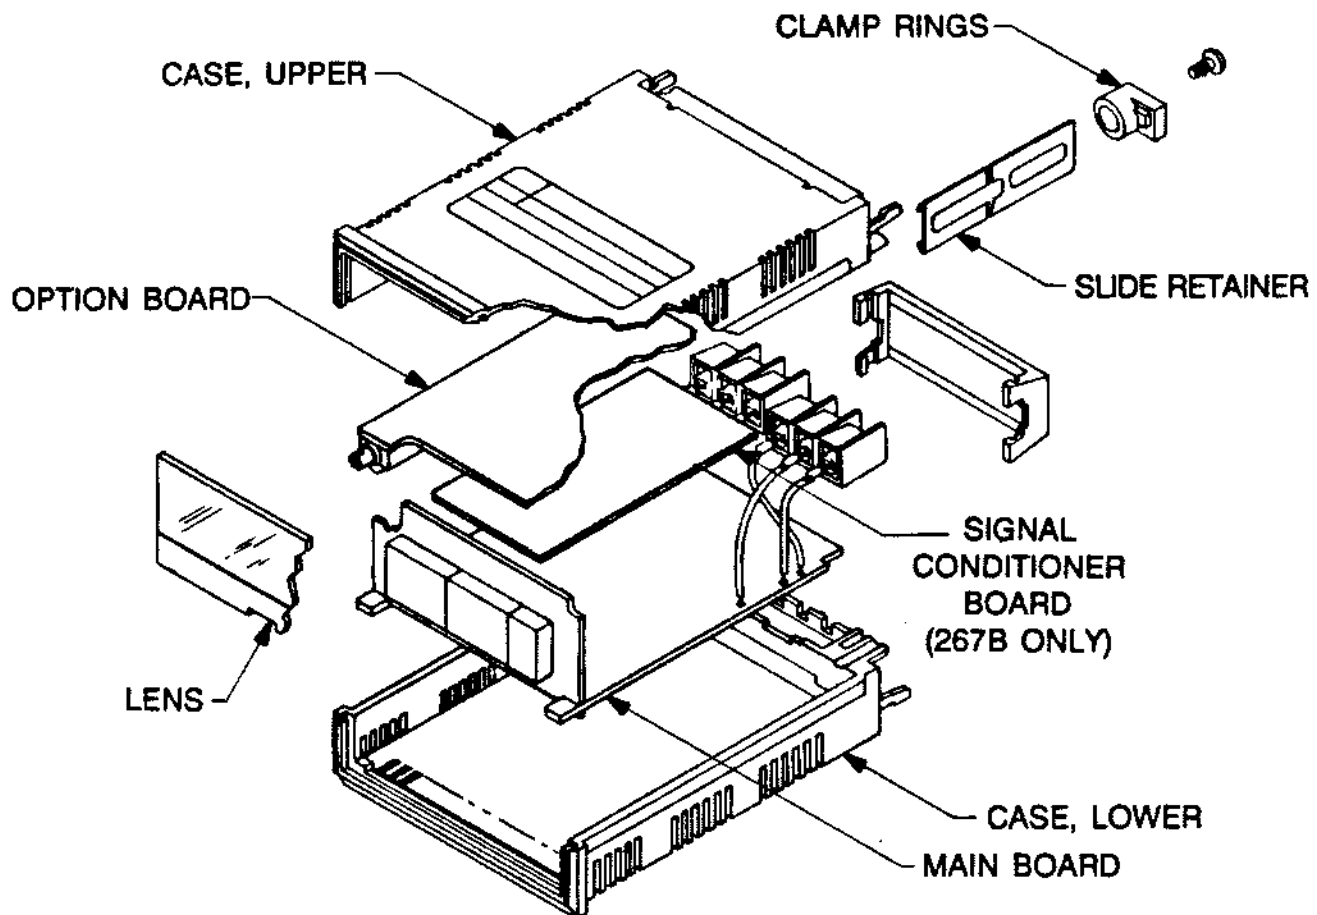

Figure 3-1 Exploded View
Figure 3-1	Exploded View
7. Install option board into upper half of case and reassemble meter. (Refer to Figure 3-1.)